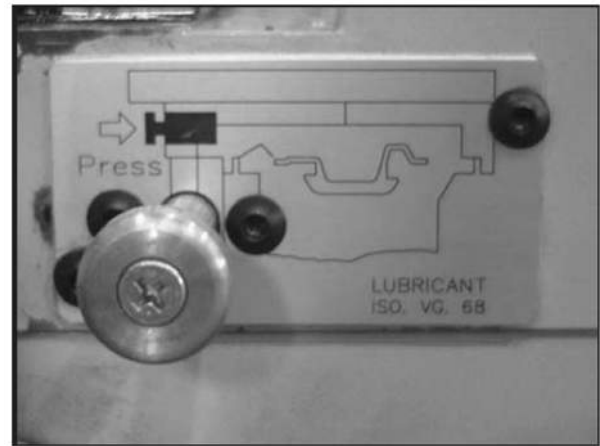

Fig.31
A manually operated pump (A) (Fig.31) is incorporated in the apron; drawing oil from the apron reservoir, it enables the operator to ensure that the slideways of bed and cross-slide are kept adequately lubricated.